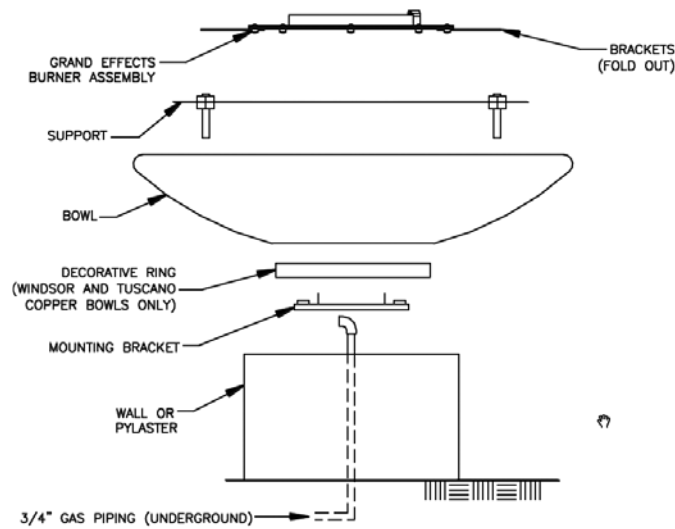

Figure 4
1. Install the Grand Effects Unit as shown in Figure 1, Figure 2, and Figure 4. Figure 3 is an optional configuration to catch dirty run-off water.
Important: The mounting bracket must be installed for proper cooling of the bowl. Warranty is voided if the mounting bracket is not installed. Do not kink or make sharp radius on the metal gas hose. Do not come straight up with the gas hose. As shown in Figure 2, a 90° gas pipe elbow must be installed on the gas line for proper installation of the gas hose. The product warranty is voided if it is not installed with an elbow as shown in Figure 4.